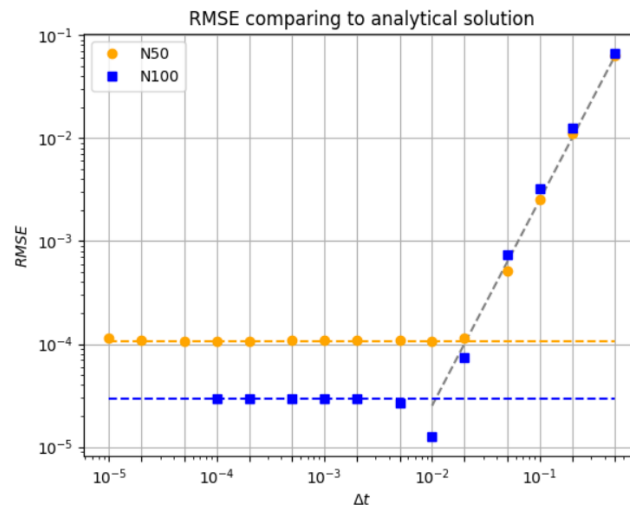

Figure 2 Figure showing spatial error decrease with higher grid definition. TODO: improve this figure, as you computed also with N150.
- Talk about the second way of computing the error, while commenting Figure 2. Talk about the appearance of the spatial discretization error, and at which scales happens.